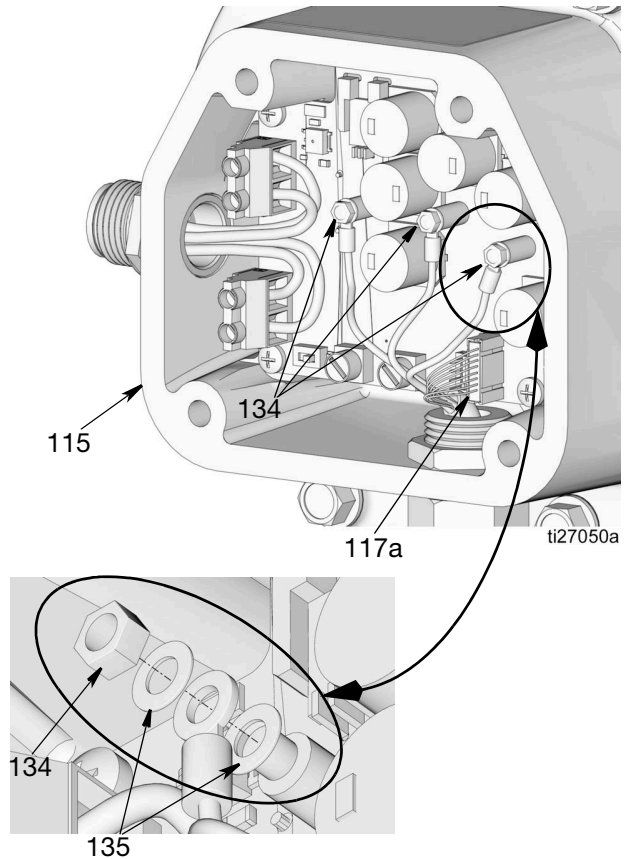

FIG. 61
5. Match the green, yellow, and blue wires to the terminals of the same color (written on the motor control board). Secure the wires to the terminals using the washers and nuts (134 and 135) (FIG. 61). Torque to 8-10 in-lb (0.9 - 1.1 N•m).
6. Connect the sensor cable (117a) (FIG. 61).
3. Match the green, yellow and blue wires of the motor to the terminals of the same color (written on the control board). Secure the wires to the terminals using the washers (135) and nuts (134) (FIG. 61). Torque to 8 - 10 in-lb (0.9 - 1.1 N•m).